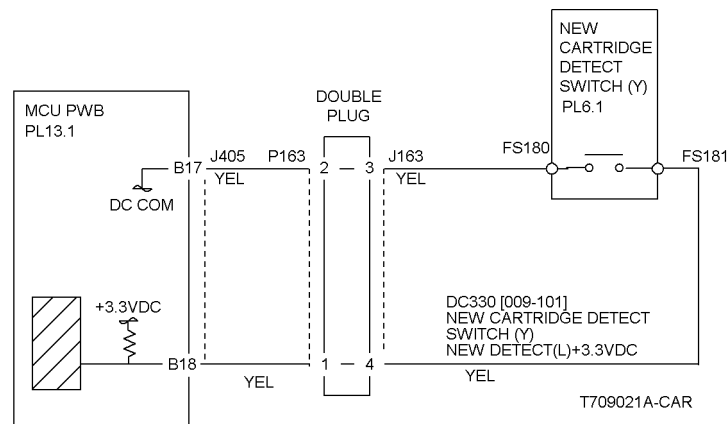

Figure 1 9-393 Rap Circuit Diagram - New Cartridge Detect Switch (Y)
Check the wire between the connector J405-B18 and FS181 on the New Cartridge Detect Switch (Y) for a short circuit to the frame (Figure 1).